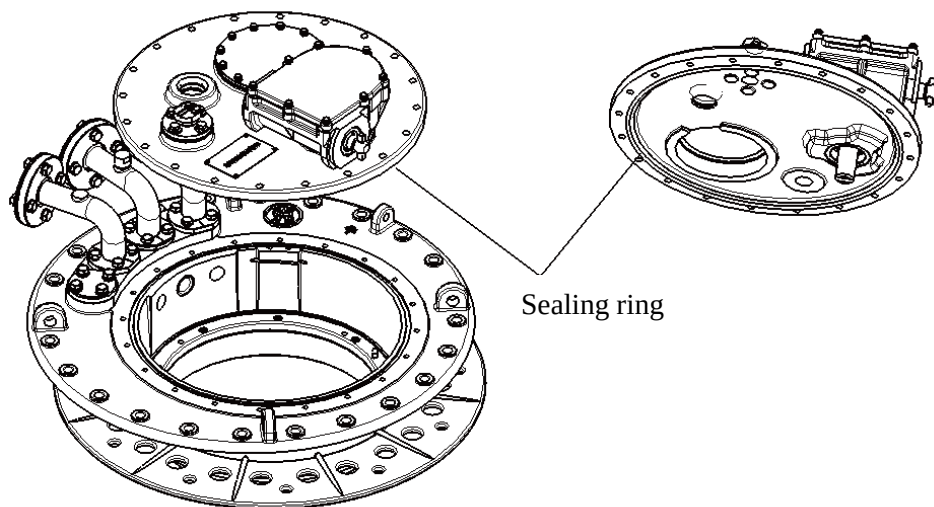

Figure 11 Tap-changer sealing ring
- During disassembly and other operations, avoid damaging the head cover and the sealing surface (O-ring) (Figure 11).